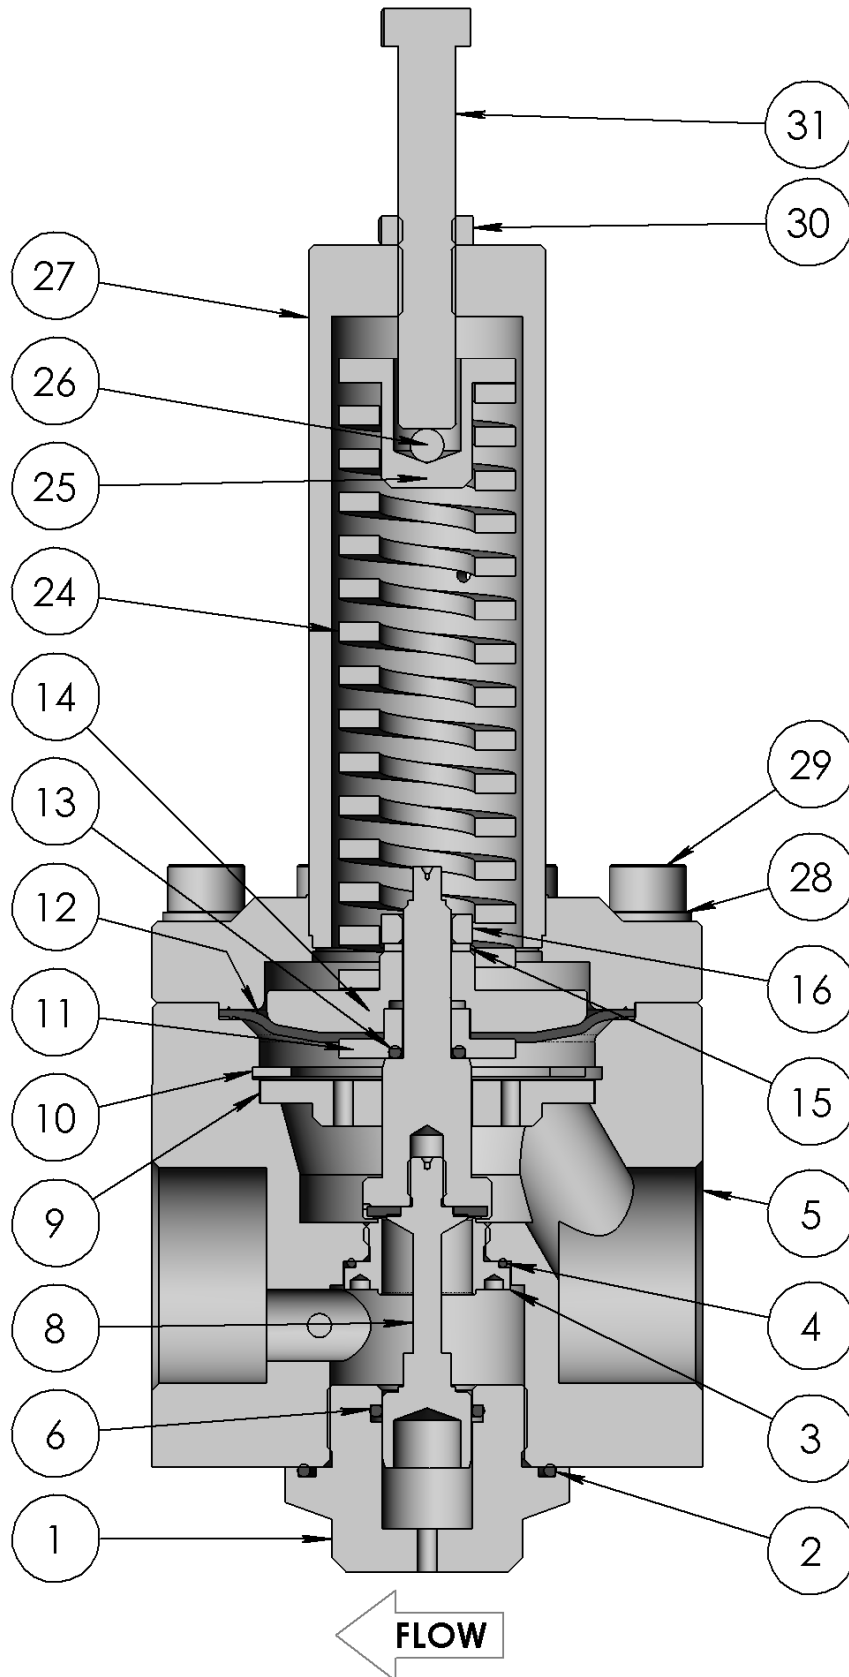

Fig 4
4. Fit the poppet O-ring (6) into the body plug (1) and lightly lubricate it.
6. Assemble the clamp plate (11), diaphragm (12), clamp plate O-ring (13), and bottom spring guide (14) onto the poppet (8) per Fig 4.